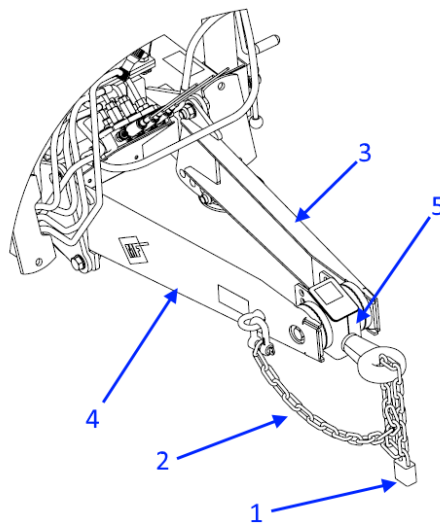

Figure 6. Drawbar components
- Fit the drawbar eye with the protection against unauthorised use (**Fig. 6 - 1**).
Key for the Z237 Bale Wrapper's drawbar components (**Fig. 6**)